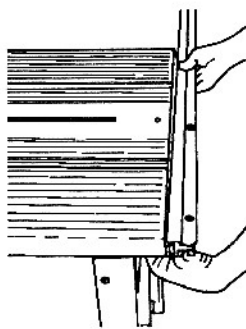

Fig. A-37
43. Adjust the rail so it is even with the left edge of the table, then finger tighten the nuts attaching the locking plates and carriage bolts, as shown in Fig. A-37.